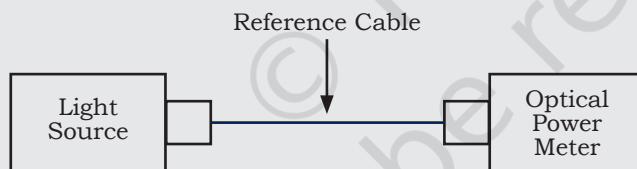

Fig. 6.13: Connection with power meter
Step 1: Connect the optical light source to the transmitting end of the test cable as shown in Fig. 6.13.